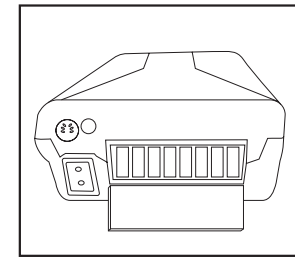

Figure 11
1. The air-inlet filter should be checked daily. The filter is located in the rear of the unit (Figure 11).